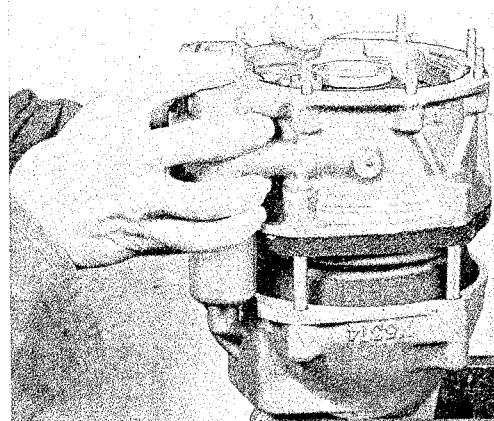

Fig. 4-45. Overdrive disassembly
3. Unscrew the nuts holding the brake ring, front and rear casing. Loosen the nuts successively all round in order to avoid any distortion from the springs. Lift off the front casing and brake ring, see Fig. 4-45.